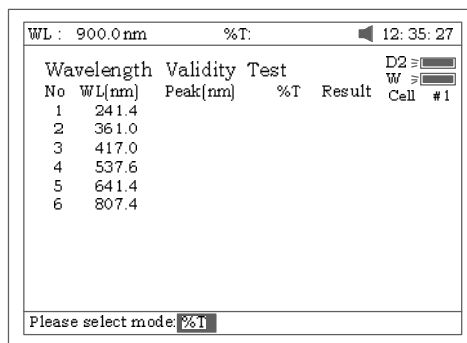

Fig 97
2. Press **[F2]** to select test mode (Abs or %T, Fig 97).